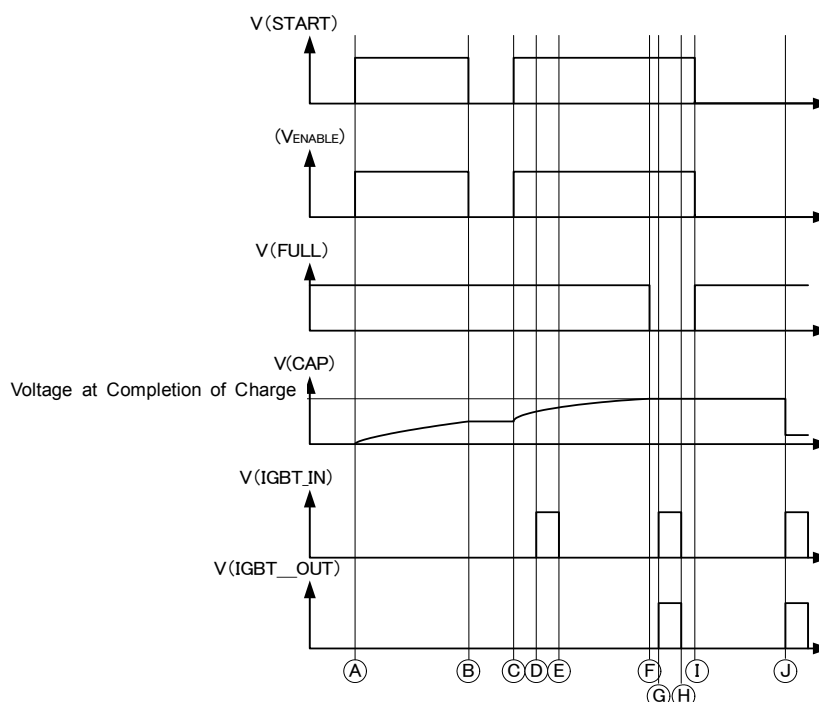

Fig 31. Timing Chart 1: Overall Operation
In this IC, a charging operation starts when the START pin is set to "H" (See Time ① and ③ in Fig 31.). In order to maintain the charging operation, the START pin must be set to "H". (See Time ① to ③, ⑤ to ⑧ in Fig 31.) If any of the conditions ① to ③ are satisfied, the charging operation stops.
- ① The START pin is set to "L".
- ② Charging is completed. The VC pin voltage reaches the specified voltage. (See Time ⑥ in Fig 31.)
To re-charge, set the START pin to "L", and the FULL pin is changed from "L" to "H". Also, if the CHARGE_ON pin is changed from "L" to "H" again, the charging operation re-starts. (See Time ③ in Fig 31.)
Set the IGBT_IN pin to "H" when the IGBT driver satisfies the following 4 conditions. The "H" signal is output to the IGBT_OUT pin. (See Time ⑨ and ⑩ in Fig 31.)
- ① The VCC voltage is the UVLO release voltage or more.
- ② The FULL pin is set at "L".
- ③ Even if the IGBT_IN pin is set to "H" while the START pin is set to "H", the IGBT_OUT pin remains at "L" and no light flashes.